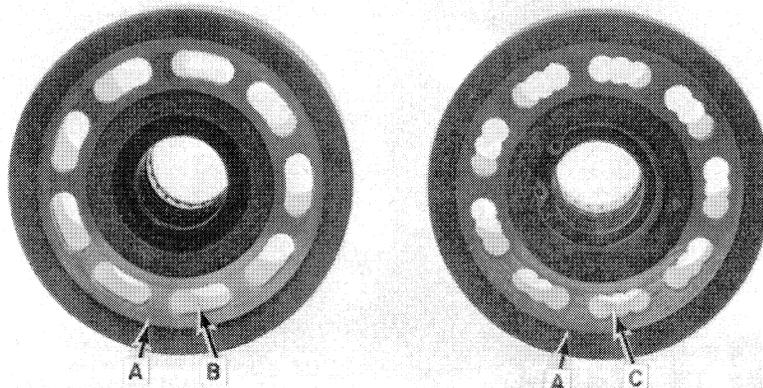

FIGURE 4-26
7. Rotating Piston Block (Figures 4-26 and 4-27)
- b. Surface, A, Figure 4-26, is worn or grooved or shows metal buildup. Nicks must not extend from the cylinders to the edge of the raised area, A, Figure 4-26.
- c. Cylinder ports may be milled, B, or drilled, C, Figure 4-26 (two types of blocks).